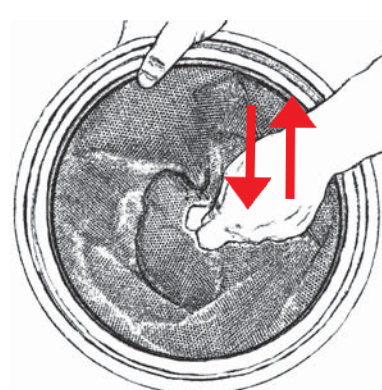

Fig. 22
1. Replace the cleaned/shaken bag filter in the container, Fig. 22. Make sure the filter support fits into the inner edge of the dust container properly. Check that the filter is fitted the right way up - the cloth handle on the filter should be visible.
2. Replace the cleaned/shaken bag filter in the container. Make sure the filter support fits into the inner edge of the dust container properly. Check that the filter is fitted the right way up - the cloth handle on the filter should be visible, Fig. 22.